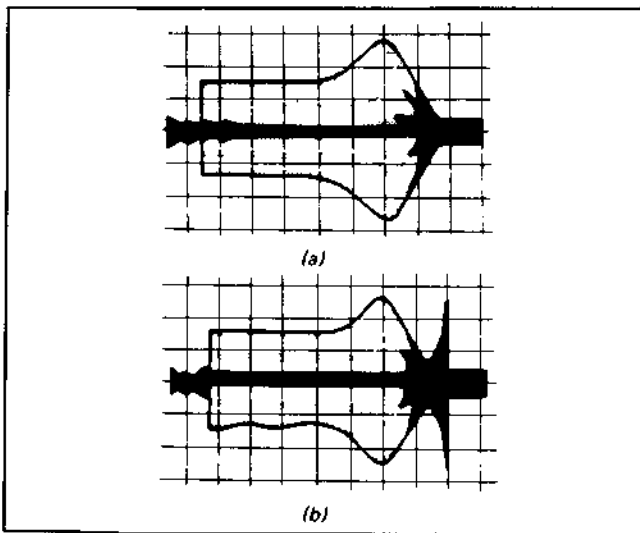
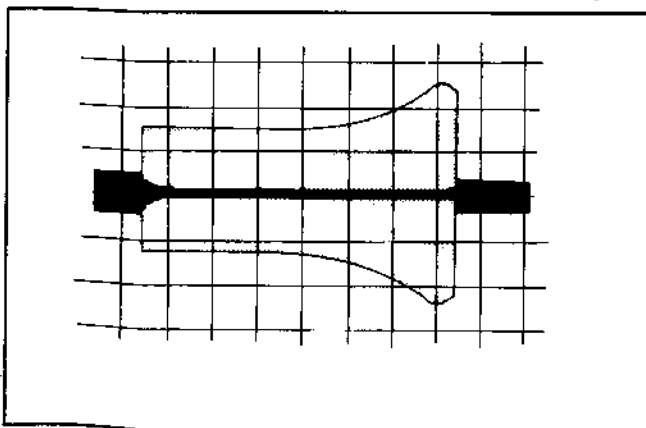
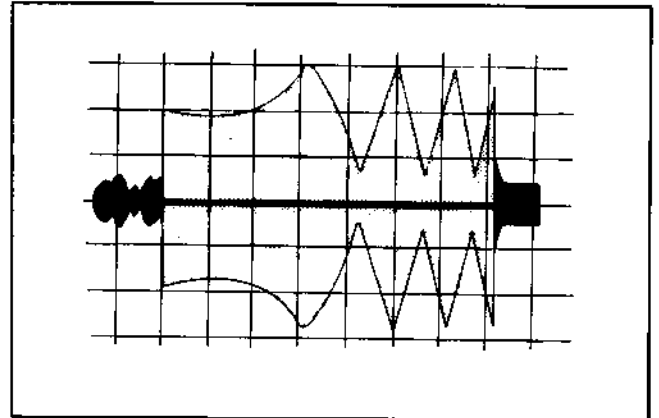

Fig. 4-15
Fig. 4-16
Fig. 4-17
- i) If the exit free waveform is within the range indicated in Fig. 4-15(a), (b), proceed from step 5).
- ii) If the peak of the exit free waveform is smaller than that illustrated in Fig. 4-15(a) (e.g. Fig. 4-16), loosen the lock screw, then turn the capstan adjustment screw until the waveform is within the specified range.
- iii) If the peak shape of the exit free waveform differs from that shown in Fig. 4-15(b) (e.g. Fig. 4-17), loosen the lock screw, then turn the capstan adjustment screw clockwise until the waveform is within the specified range.
- 5) Lock the capstan lock screw. (Turn clockwise until it stops, then turn about 30° more. At this point, the exit free waveform will change slightly, and if it goes out of the range shown in Fig. 4-15(a), (b) return to step 4) and re-adjust.
- 7) Confirm and adjust according to 4-1-3, exit side adjustment procedure items 4), 5).